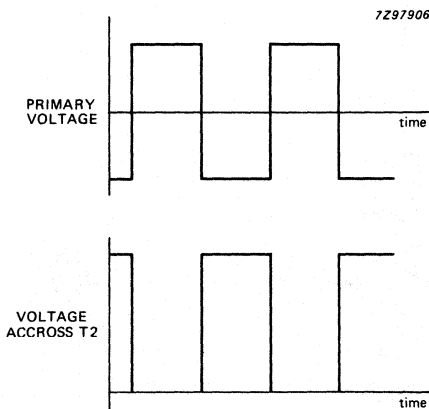

Fig.17(b) Waveforms associated with pulse transformer.
When T2 switches on voltage is applied across the primary of the pulse transformer. The current through T2 consists of the sum of the gate drive current for T1 and the magnetising current of the pulse transformer. From the waveforms of current and voltage around the circuit shown in Fig.17(b) it can be seen that after the turn off of T2 the voltage across it rises to $V_D + V_Z$, where V_Z is the voltage across the zener diode Z_D . The zener voltage V_Z applied across the pulse transformer causes the flux in the core to be reset. Thus the net volt second area across the pulse transformer is zero over a switching cycle. The minimum number of turns on the primary is given by equation (2).